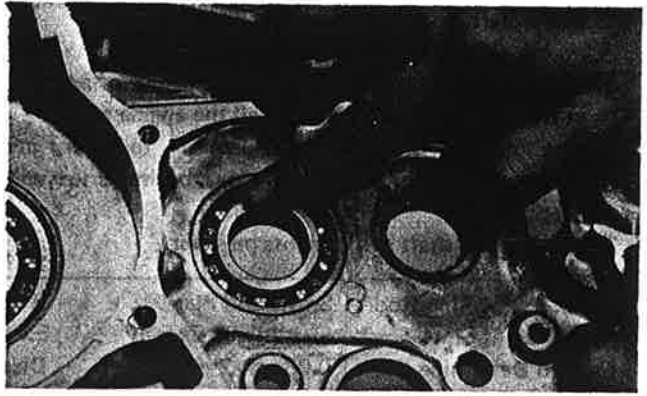

Fig. 3-3-38
- a. After cleaning and lubricating bearings, rotate inner race with a finger. If rough spots are noticed, replace the bearing. (Fig. 3-3-38)